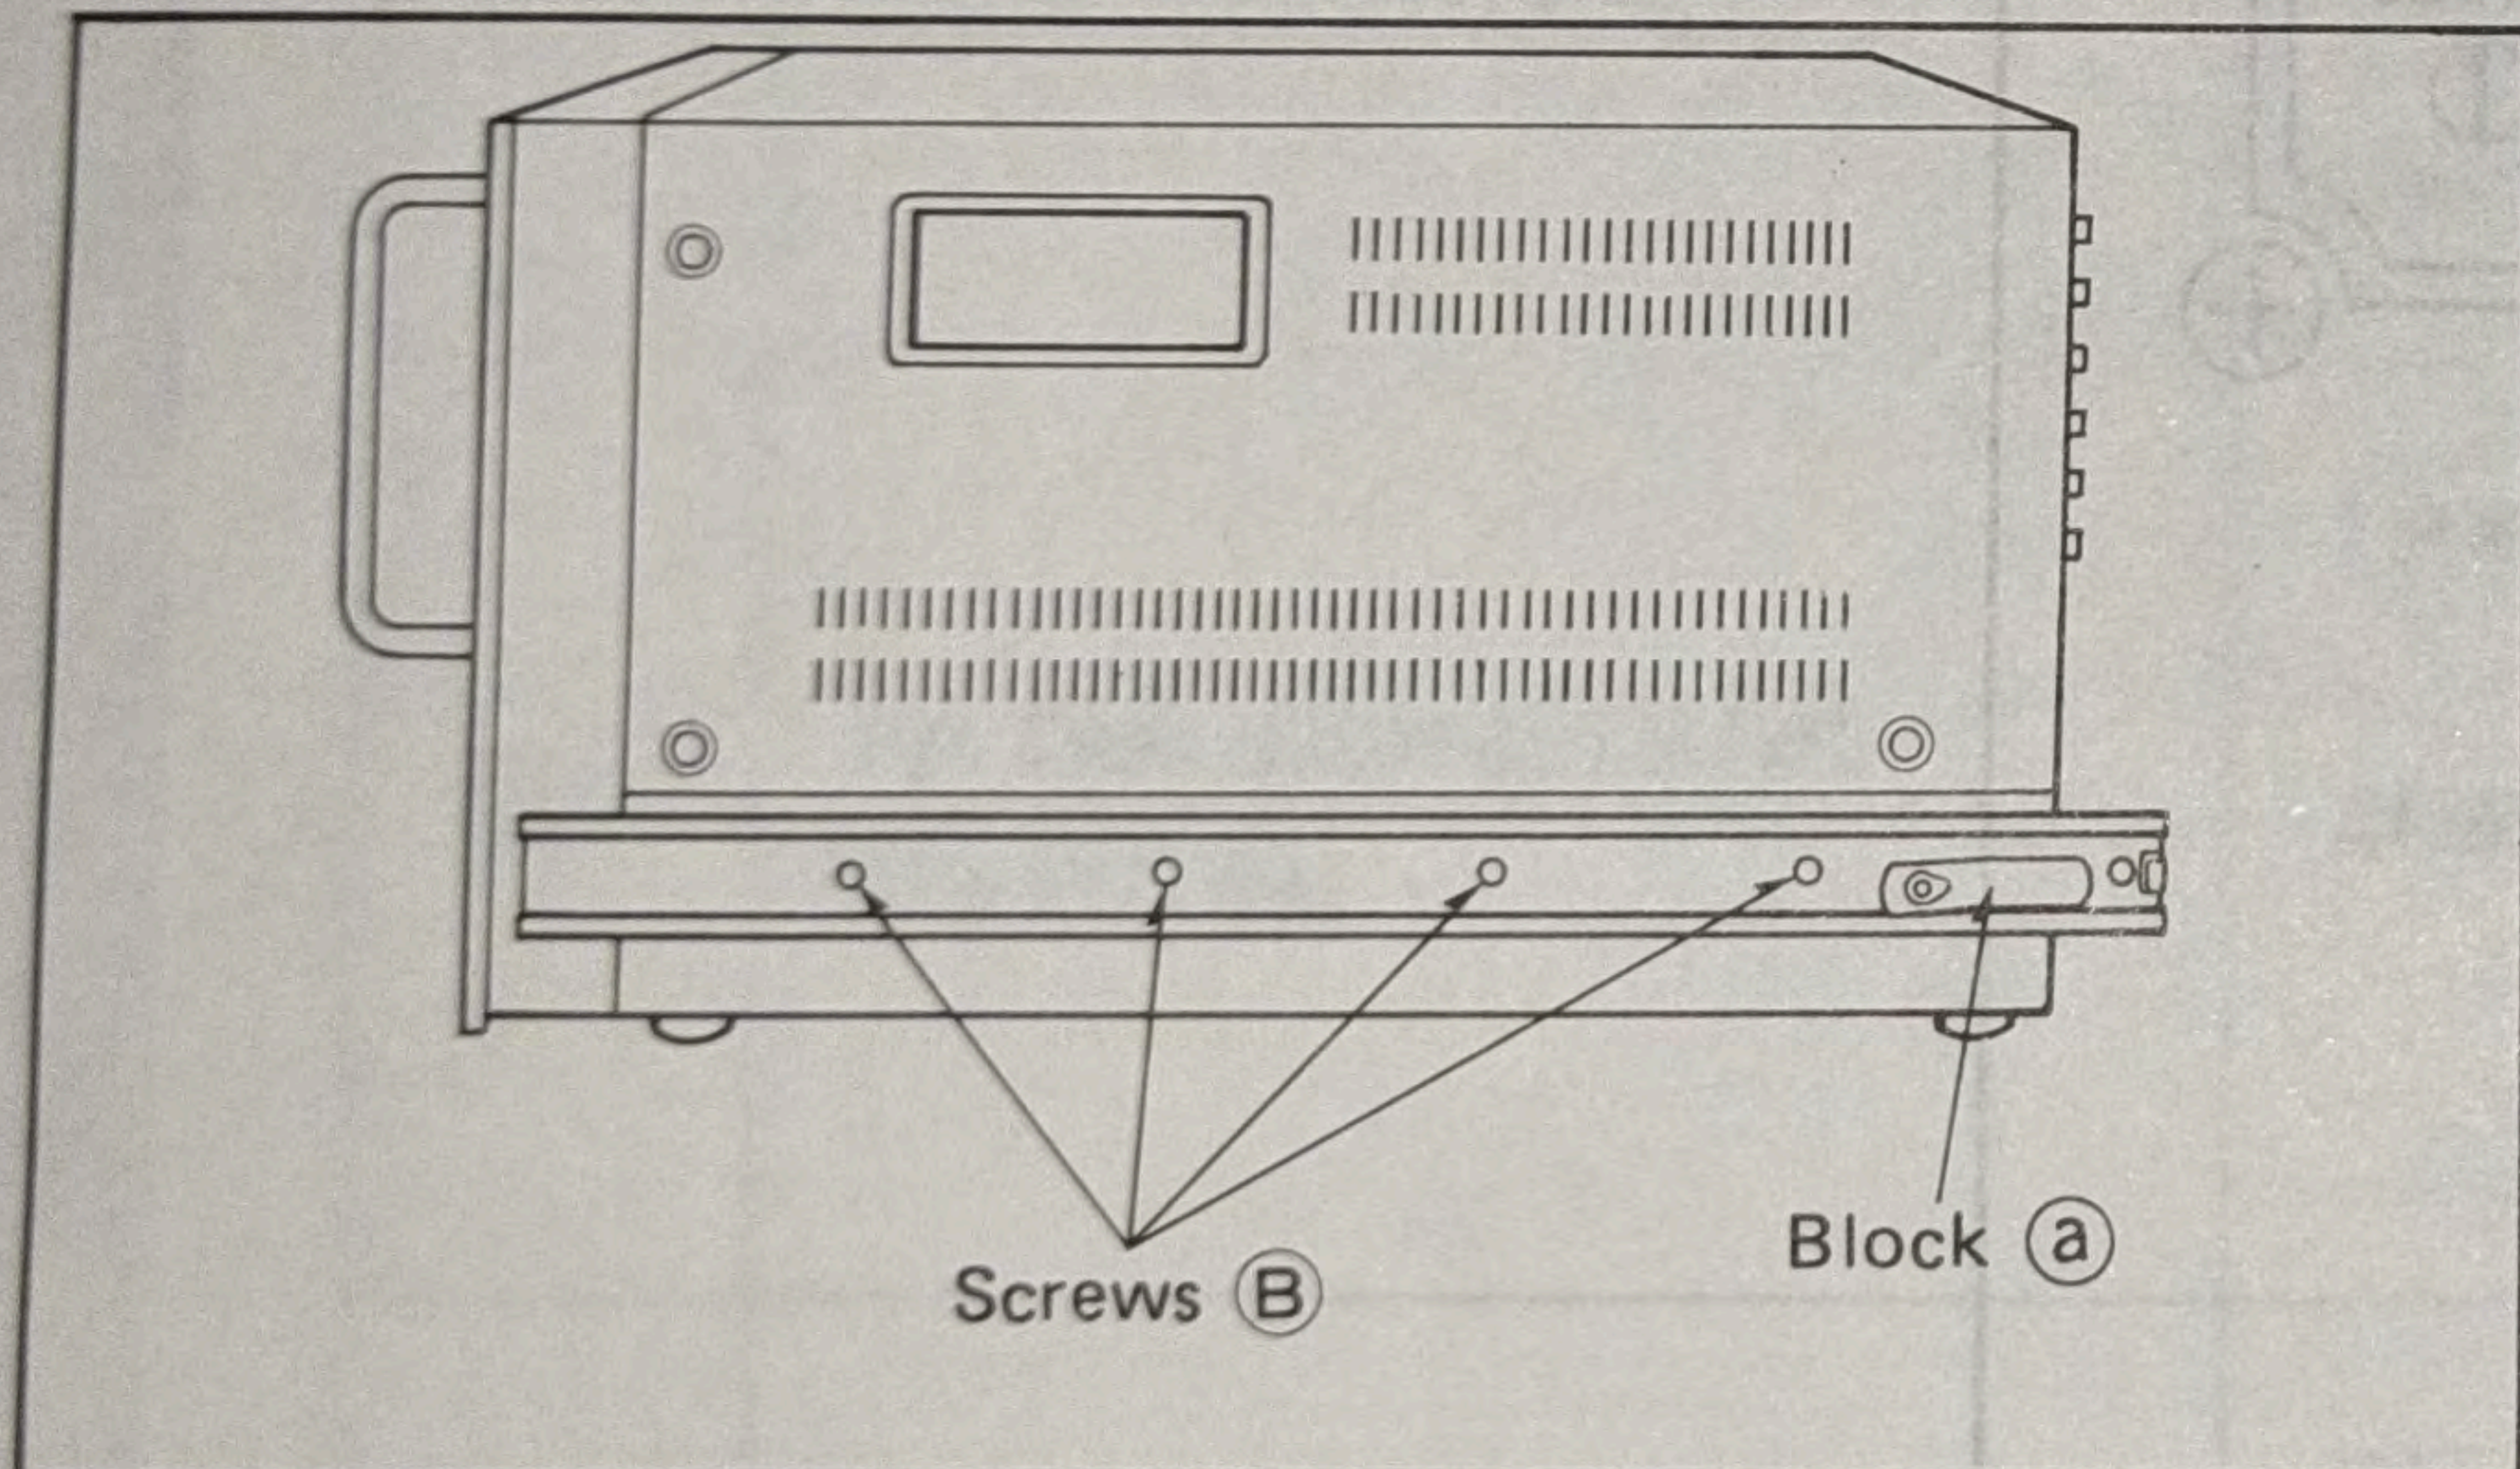

Fig. 2
2. Mount and secure both the right and left (a) blocks of the slide assembly on the unit using 4 screws (B) each (Fig. 2).